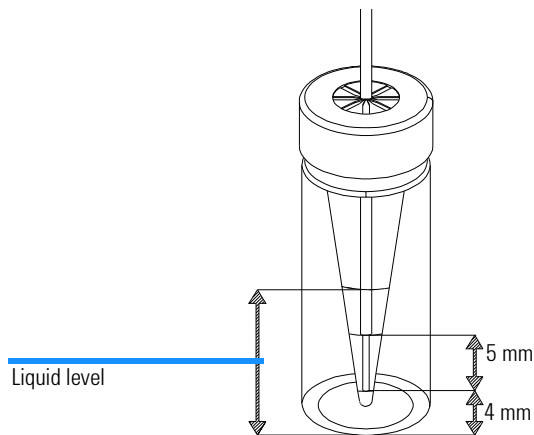

Figure 25 Liquid level and lift offset for standard electrodes
- Ensure an adequate liquid level for sample, buffer and waste vials. See Figure 25 on page 131.
The recommended maximum liquid level in the vials is 1.8 cm measured from the bottom of the vial (see Figure 25). The minimum level depends on the type of liquid the vial is used for (sample, buffer or waste).
Liquid Level = L = Lift offset + 5 mm up to electrode + 1 mm guard band = 1 cm. See Figure 25.